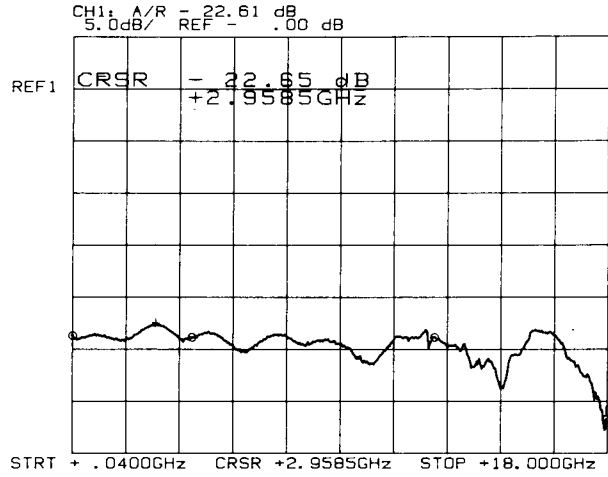

Figure 4-7. Reading Cursor Value
13. Using **MAIN MENU** soft keys, press **[CURSER]**. Use the knob to set the cursor to the highest trace value (lowest return loss value) between **M1** and **M2** (.04 to 4 GHz), and read the cursor value from the CRT (see Figure 4-7). Do the same thing between **M2** and **M3** (4 to 12 GHz), and between **M3** and **M4** (12 to 18 GHz). Note these values on the test record card.